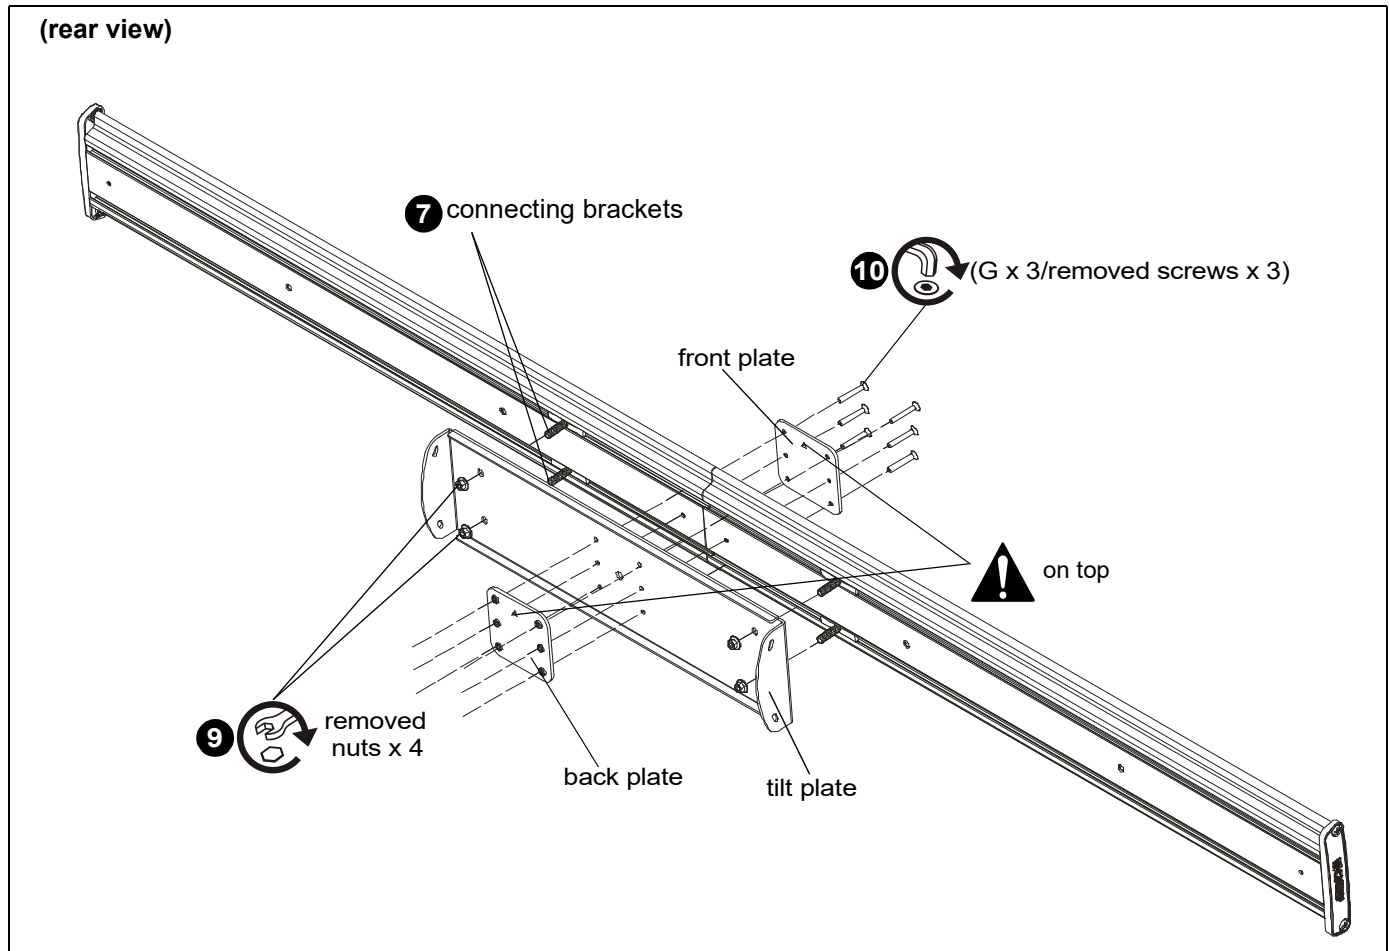

Figure 5
7. Slide two of four connecting brackets from XPA1U/XFA1U head assembly into corresponding groove on FCA624 interface. (See Figure 5)
8. Align four connecting brackets with outside four holes on tilt plate. (See Figure 5)
9. Use four nuts removed in Step 4 to secure tilt plate to new head assembly. (See Figure 5)
10. Install six #10-24 x 1 1/2" flat head cap screws (G) and removed screws through front plate, new head assembly, tilt plate and back plate to create complete head assembly. (See Figure 5)
IMPORTANT ! : Make sure back plate and front plate are reassembled correctly. The triangles must be at the top when they are reattached! (See Figure 5)